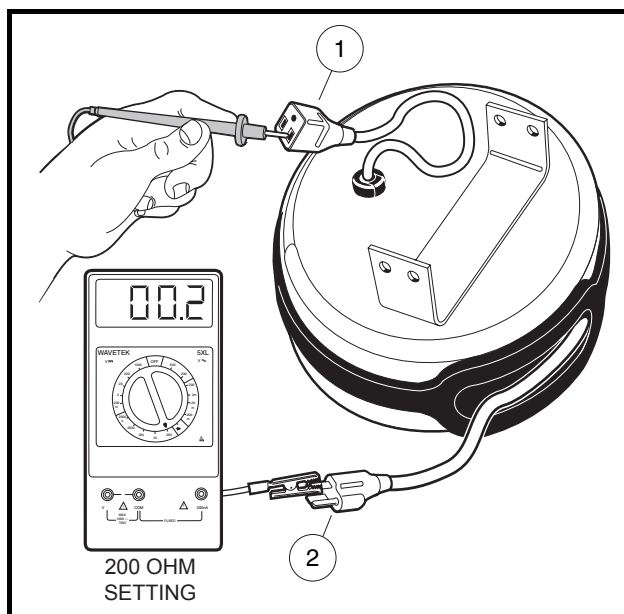

Figure 4-22 Retractable Cord Reel Test
5. Using a multimeter set for 200 ohms, place the red (+) probe in one of the flat blade openings of the cord reel receptacle (1) (**Figure 4-22, Page 4-23**). Test for continuity at the cord reel AC plug (2) on each of the flat blades and then on the round pin of the AC plug. The tester should indicate continuity on one flat blade only. If any other reading is obtained, the cord reel must be replaced.
6. Place the red (+) probe into the other flat blade opening of the cord reel receptacle (1). Test for continuity on the cord reel AC plug (2) on each of the flat blades and then on the round pin of the AC plug. The tester should indicate continuity on one flat blade only. If any other reading is obtained, the cord reel must be replaced.